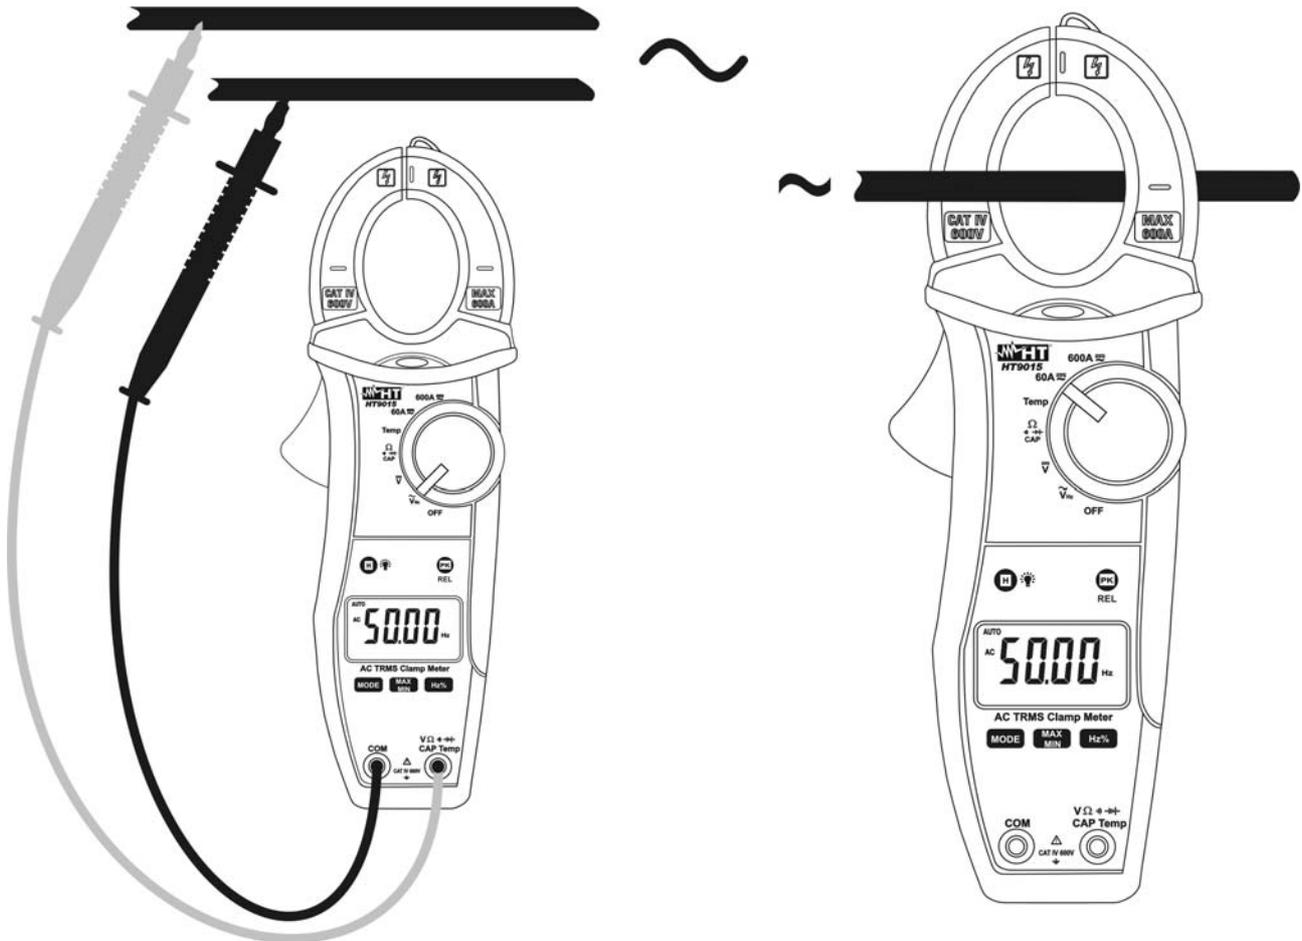

Fig. 10: Taking frequency and duty cycle measurements
3. Insert the red test lead plug into **VΩHzTemp** jack and the black test lead plug into **COM** jack (see Fig. 10 – left side) for frequency measurement with test leads. Open the clamp and put the conductor to be tested in the middle of the clamp jaw (see Fig. 10 – right side) for frequency measurements with jaws, then reading will be displayed. Bargraph is disabled in frequency and duty cycle test